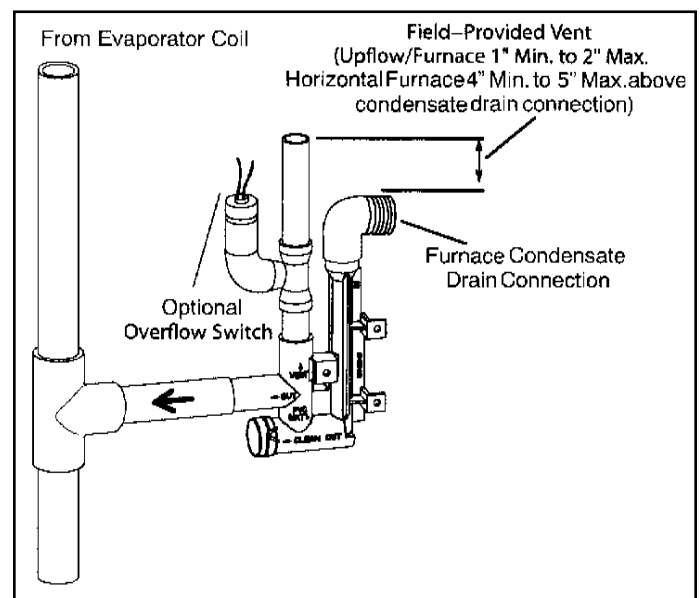

Figure 38. Condensate Trap with Optional Overflow Switch
4. Install drain trap using appropriate PVC fittings, glue all joints. Glue the provided drain trap as shown in Figure 38. Route the condensate line to an open drain.